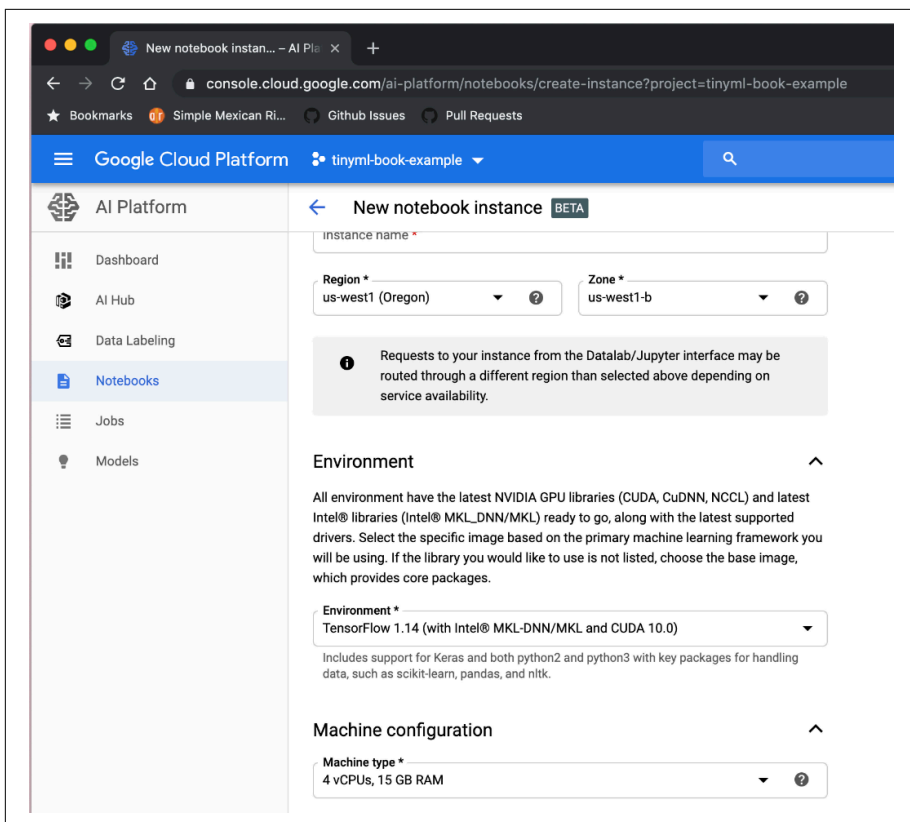

Figure 10-5. The CPU and version interface
8. In the “Machine configuration” section, choose at least 4 CPUs and 15 GB of RAM, as shown in Figure 10-5.